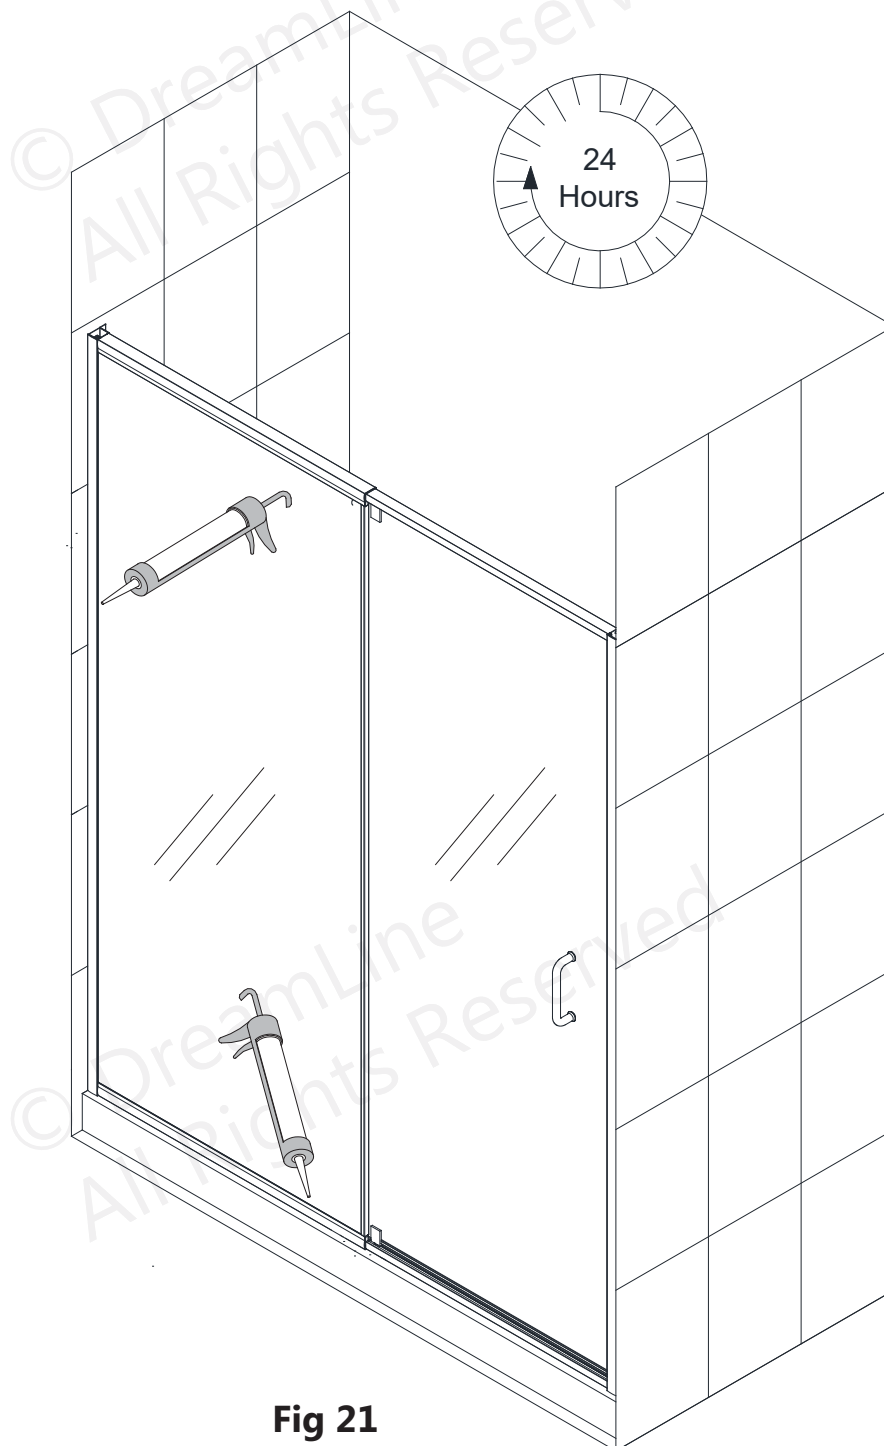

Fig 21
21. Apply a good quality mildew-resistant silicone around the interior perimeter along both walls and the threshold. **(Fig 21)**